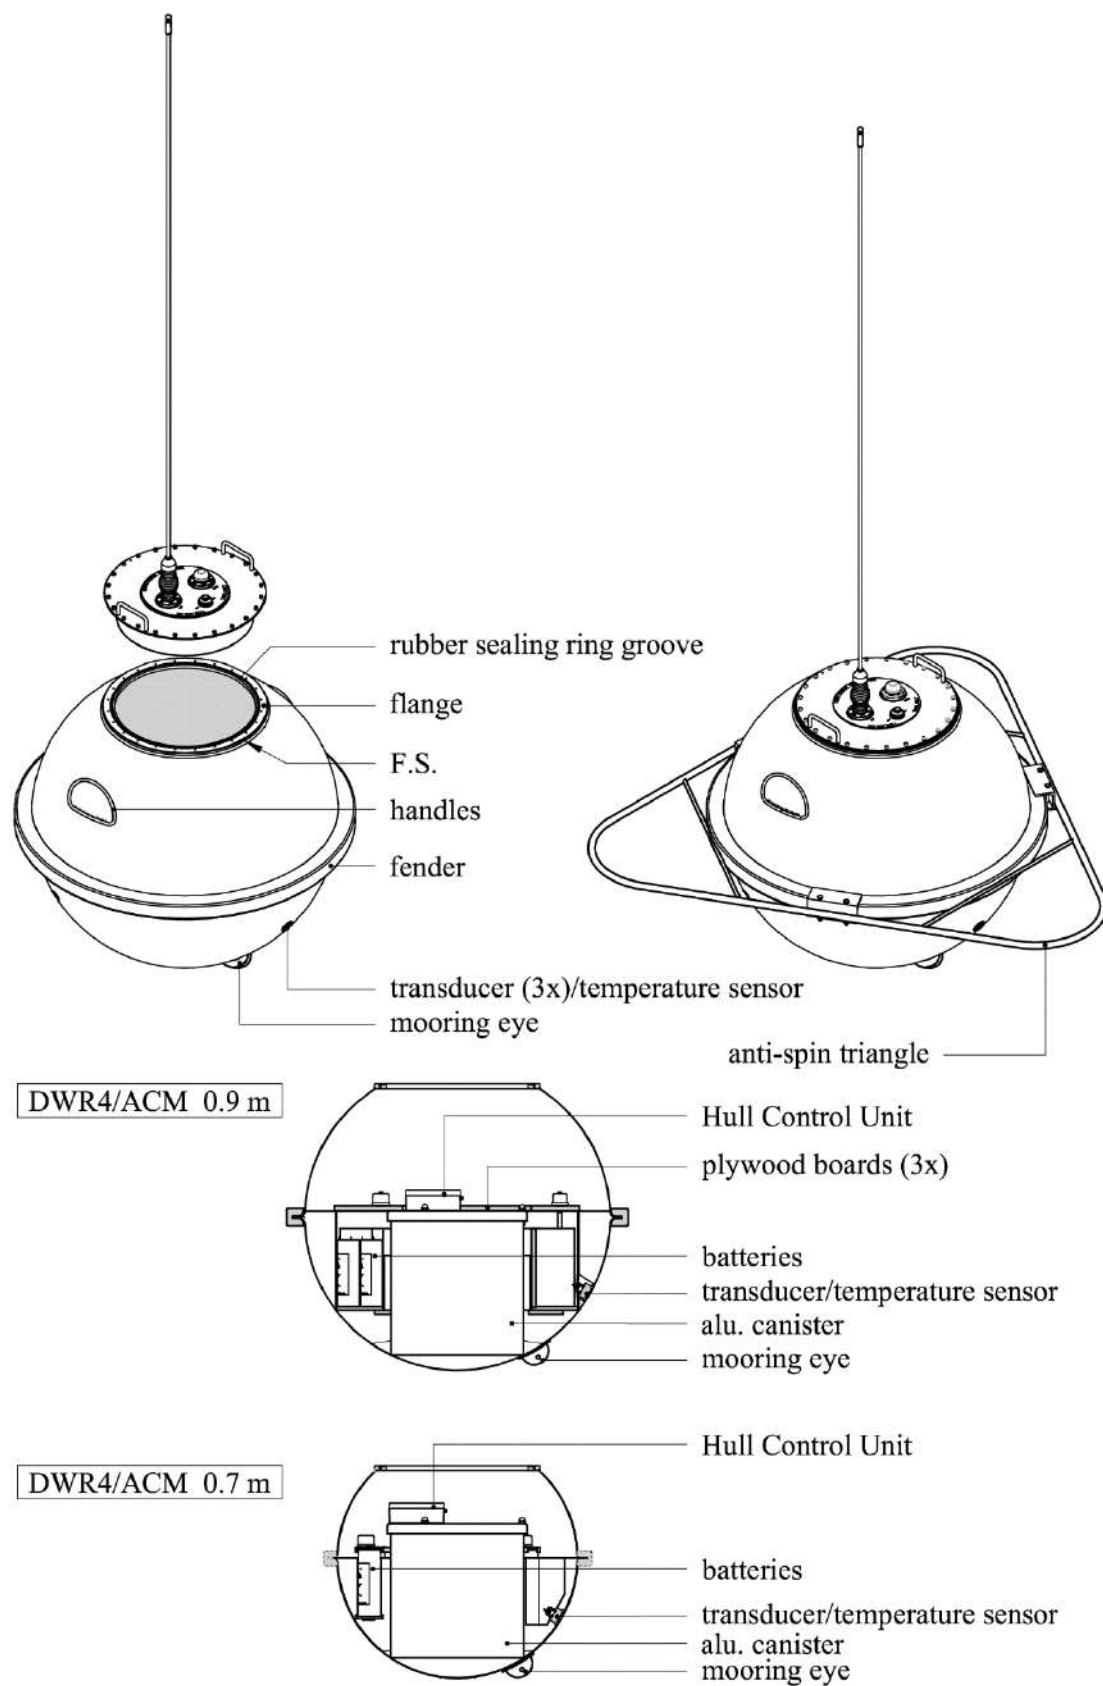

Figure 4.1 Rendering of the hull components.
The DWR4 hull is either available as AISI316 or Cunifer10. The hatchcover is always made of AISI316. On the outside of the hull you will find, from the bottom up: the mooring eye, three acoustic transducers (in case of the ACM option), temperature sensor, fender fitted with anti-spin triangle, handles and flange with groove and rubber sealing ring and forward ship (FS) reference. The FS reference corresponds to the compass heading and is in fact a small planed face on the side of the flange See Figure 4.1 on the next page.